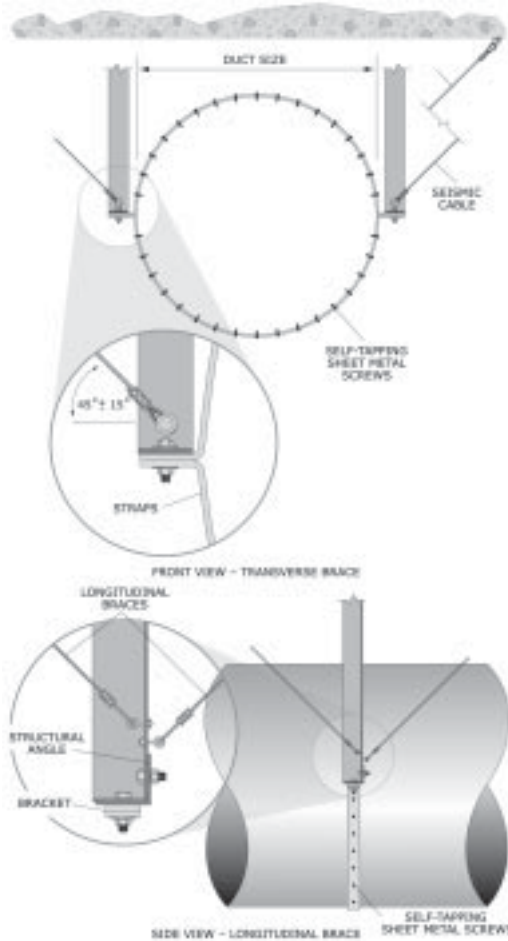

Figure 42: Round duct with vertical steel shapes and braced with cables (transverse and longitudinal).
**Cable bracing requires bracing on both sides as shown in Figure 42 (above).**
Assemble the support and connect it to vertical steel shapes as shown in Figure 42 (page 34).